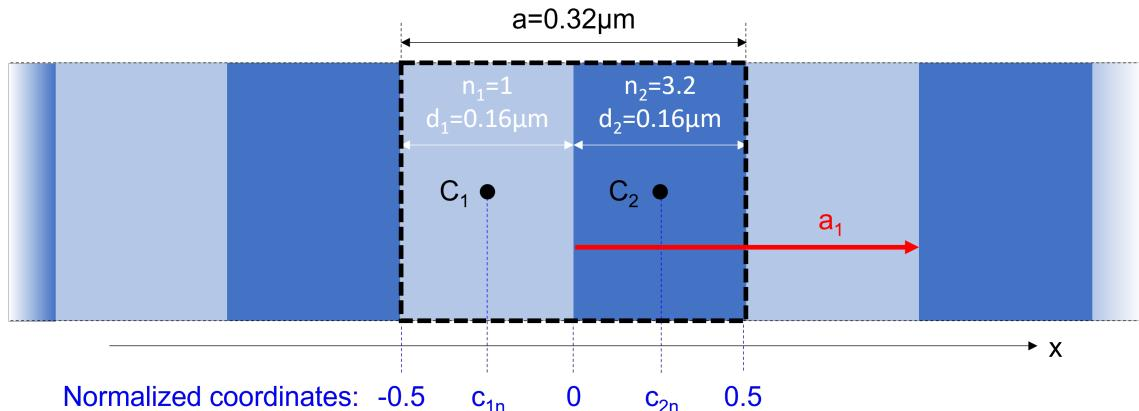

Figure 3.7: The DBR to simulate. For MPB, we only consider a unit-cell as indicated by the dashed black rectangle.
1. First we need to define a reference length. Here we choose $a = d_1 + d_2$ as illustrated in figure 3.7.